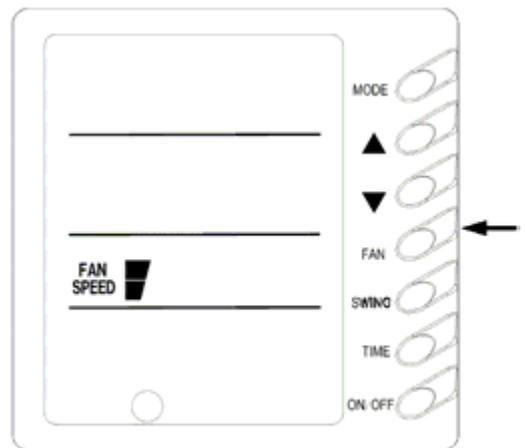

Fig.5
**2) Fan Control (Fig.5 is about display region and the same as following figures.)**